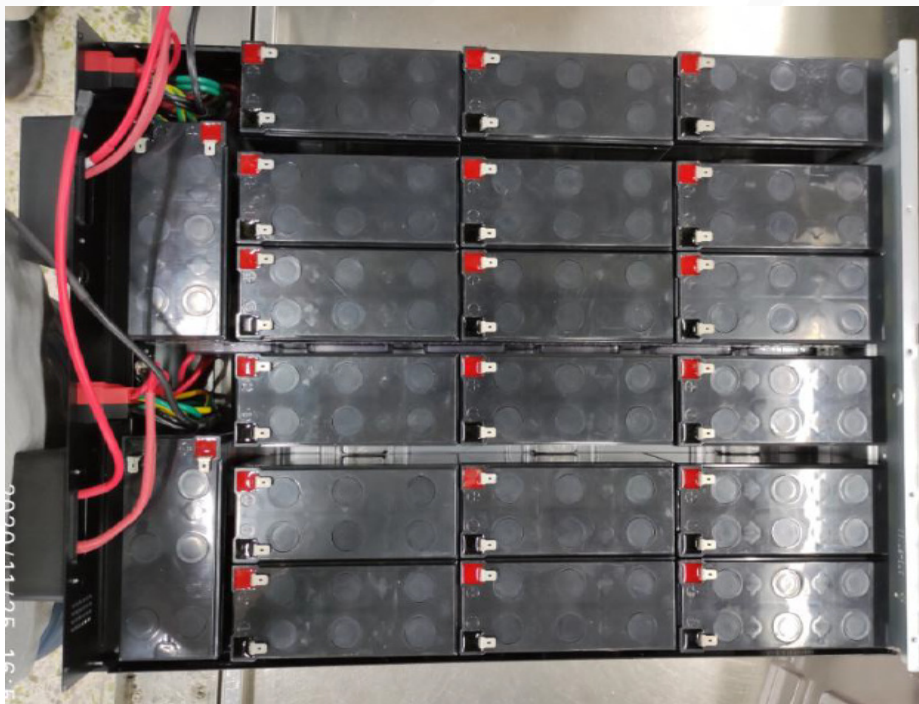

Fig 2-2
2.2). Put the battery into the chassis refer to Fig 2-2: